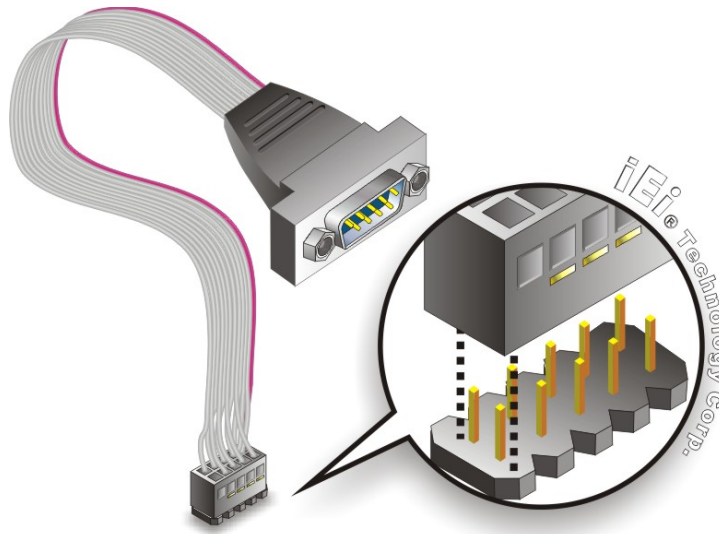

Figure 4-17: Single RS-232 Cable Installation
Step 2: Insert the cable connector. Insert the connector into the serial port header. See **Figure 4-17**. A key on the front of the cable connector ensures the connector can only be installed in one direction.